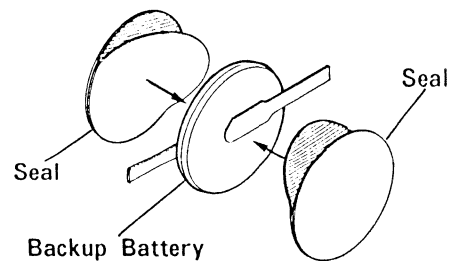

Figure 10.
- ☐ Install the insulating seals (P/N R8118690) on each side of the battery by peeling back the adhesive covering and sticking one to each side of the cell (below Figure 10).